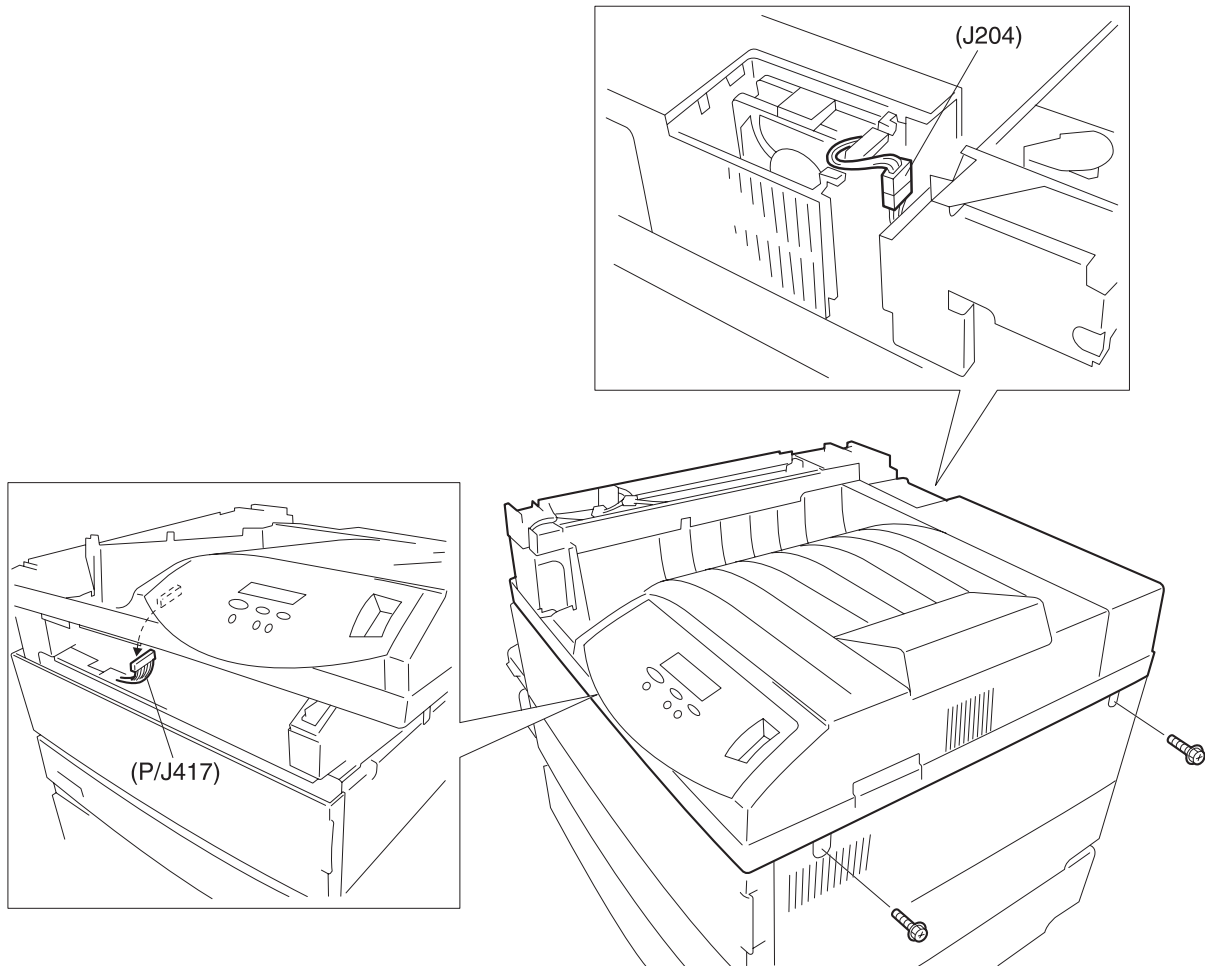

Figure 1
4. Remove the two screws securing the right side of the Top Cover Assembly to the Right Cover (Figure 1).